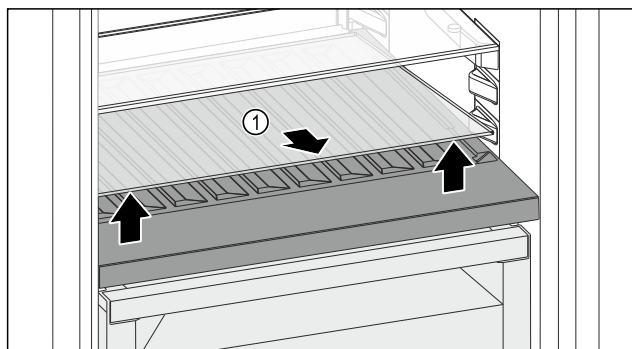

Fig. 110
- Lift the glass shelf Fig. 110 (1) at the front and remove.
- Store the glass shelf Fig. 110 (1) in a safe place outside the appliance.